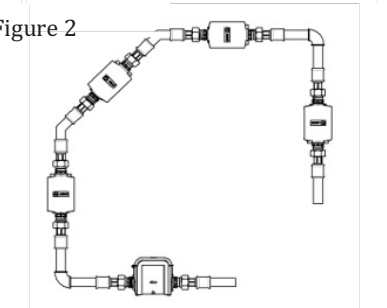

Figure 3
3. The meter may be installed in any orientation (Figure 3). There are no straight pipe requirements for the Sonata.